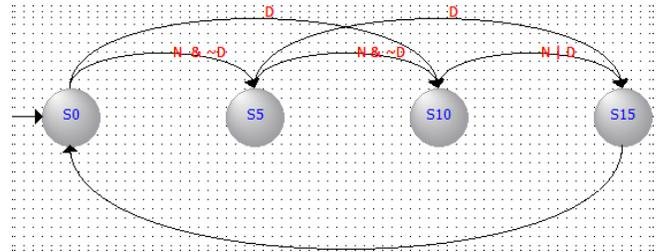

Figure 20. Quartus rearranged states.
11. All information have been entered. Click **OK**! We should get Figure 20.